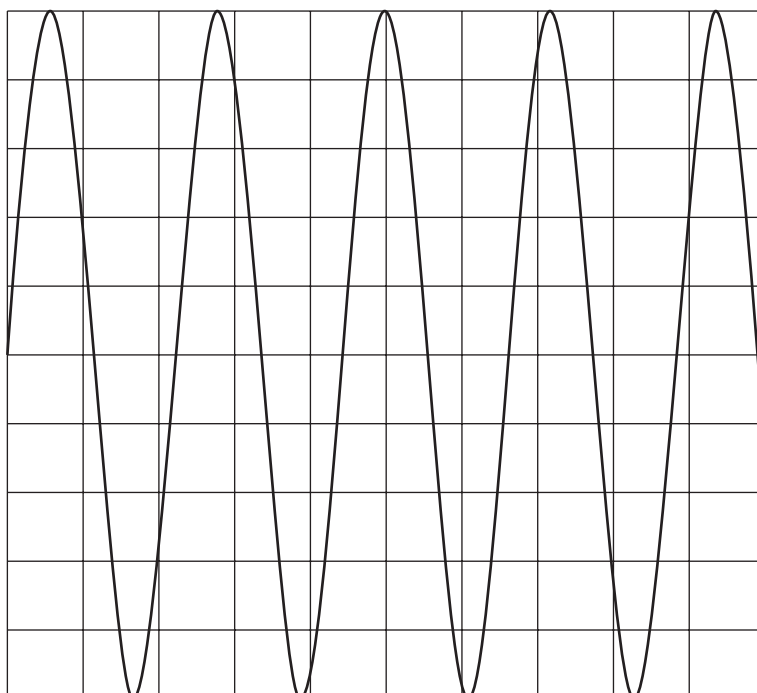

Fig 2.2
- (b) Fig. 2.2 shows the display of the oscilloscope screen after the student has adjusted the Y-sensitivity setting. The time-base setting is unchanged.
- (i) Use Fig. 2.2 to determine an **accurate** value for the time period of the wave.